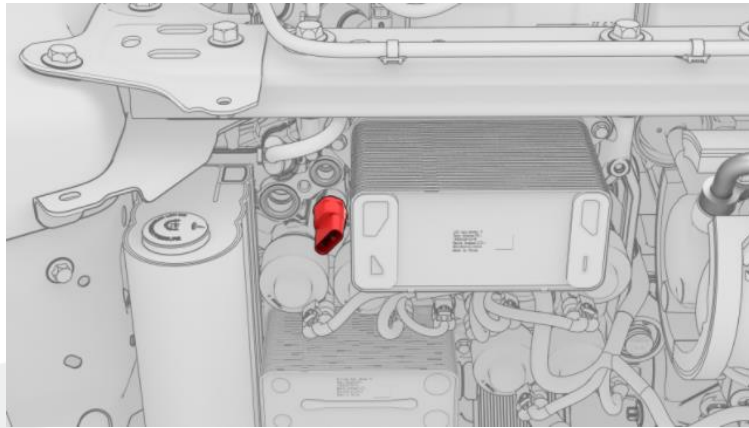

Figure 7
9. Use the HVAC socket kit special tool to remove the high pressure P/T sensor from the Supermanifold (Figure 7).
14. Install the new high pressure P/T sensor (black connector) into the Supermanifold (Figure 7):